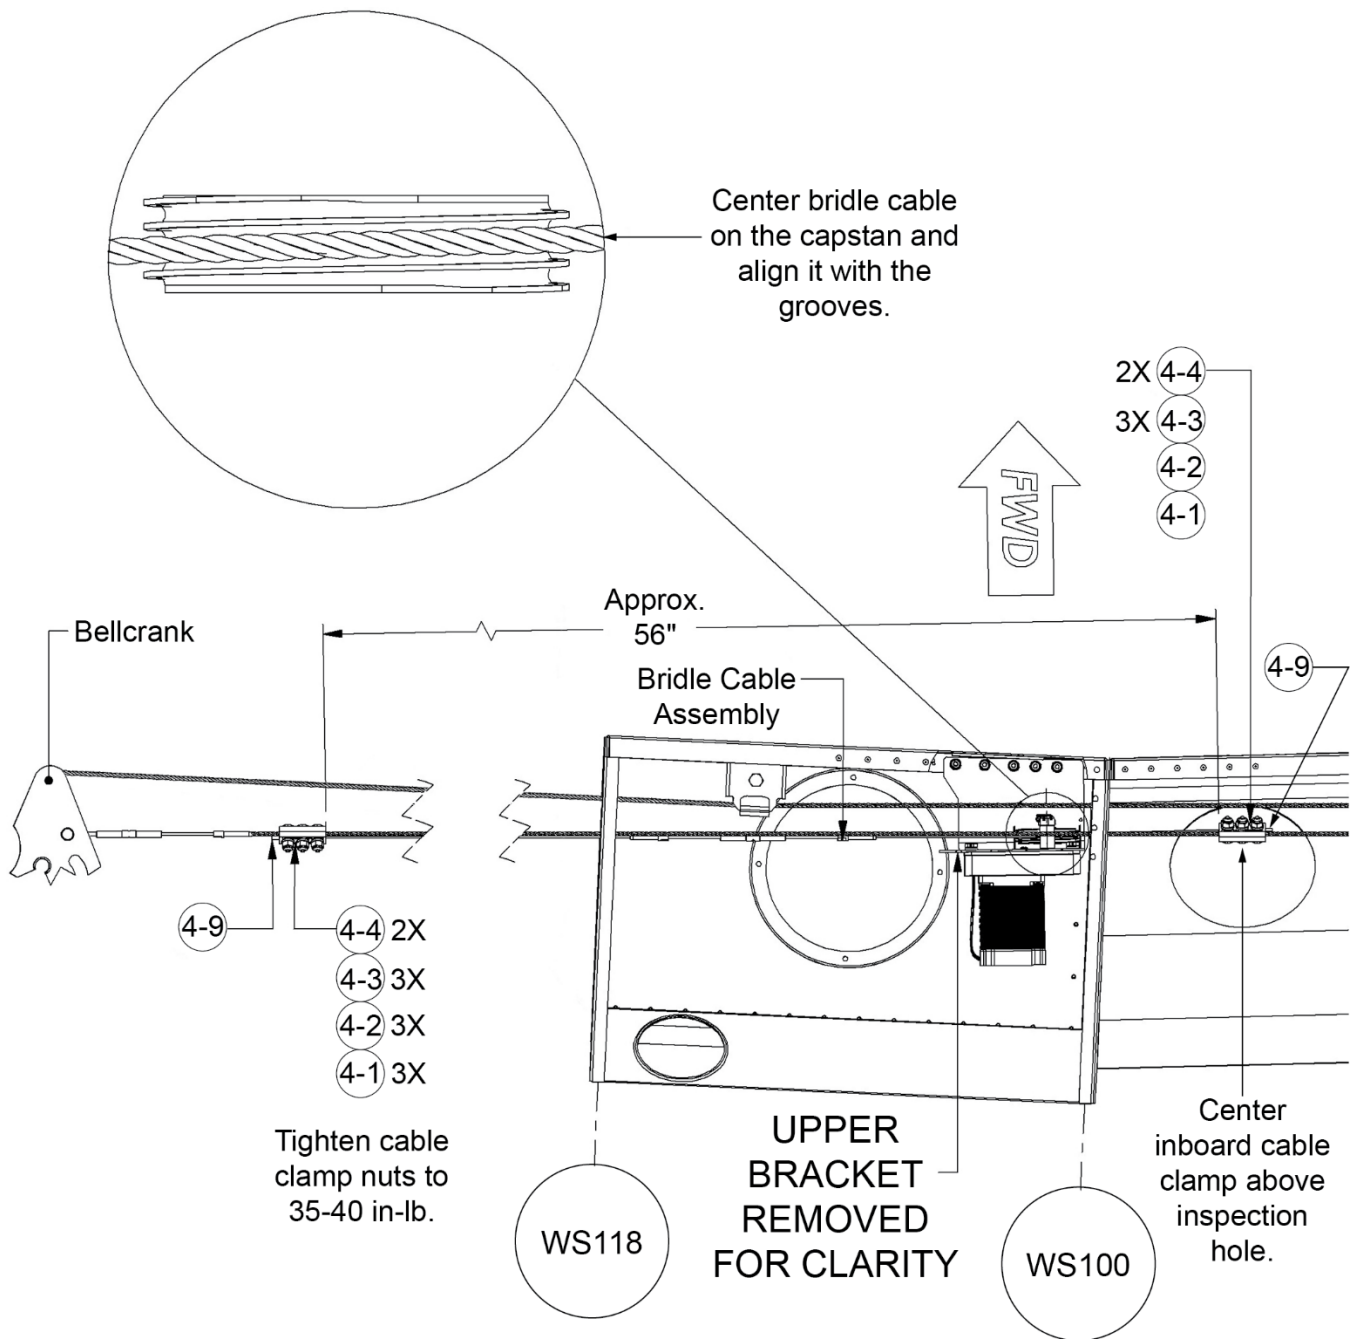

Figure 12: Connecting Bridle Cable to Aileron Crossover Cable
3. Use bridle cable clamps to loosely connect inboard and outboard bridle cable ends to aileron crossover cable, as shown in Figure 12. Make sure clamps contact swage stops at each end of bridle cable.
- Clamps are located as shown in Figure 12.
- Position of bridle cable clamps closely matches Figure 12.